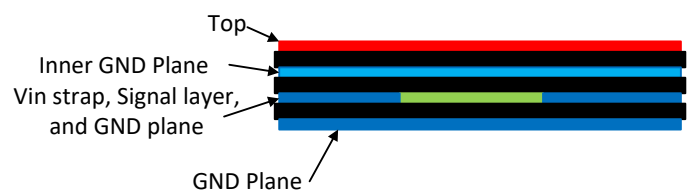

Figure 22. Example Layout for WQFN Package
1. **Place the input capacitor or capacitors as close as possible to the VIN and GND terminals.** VIN and GND pins are adjacent, simplifying the input capacitor placement. With the WQFN package there are two VIN/PGND pairs on either side of the package. This provides for a symmetrical layout and helps minimize switching noise and EMI generation. A wide VIN plane must be used on a lower layer to connect both of the VIN pairs together to the input supply; see Figure 22.